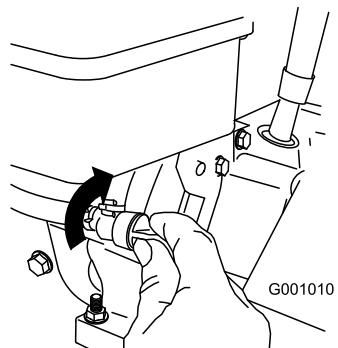

Figure 27
- Close the fuel shutoff valve by rotating it clockwise (Figure 27).